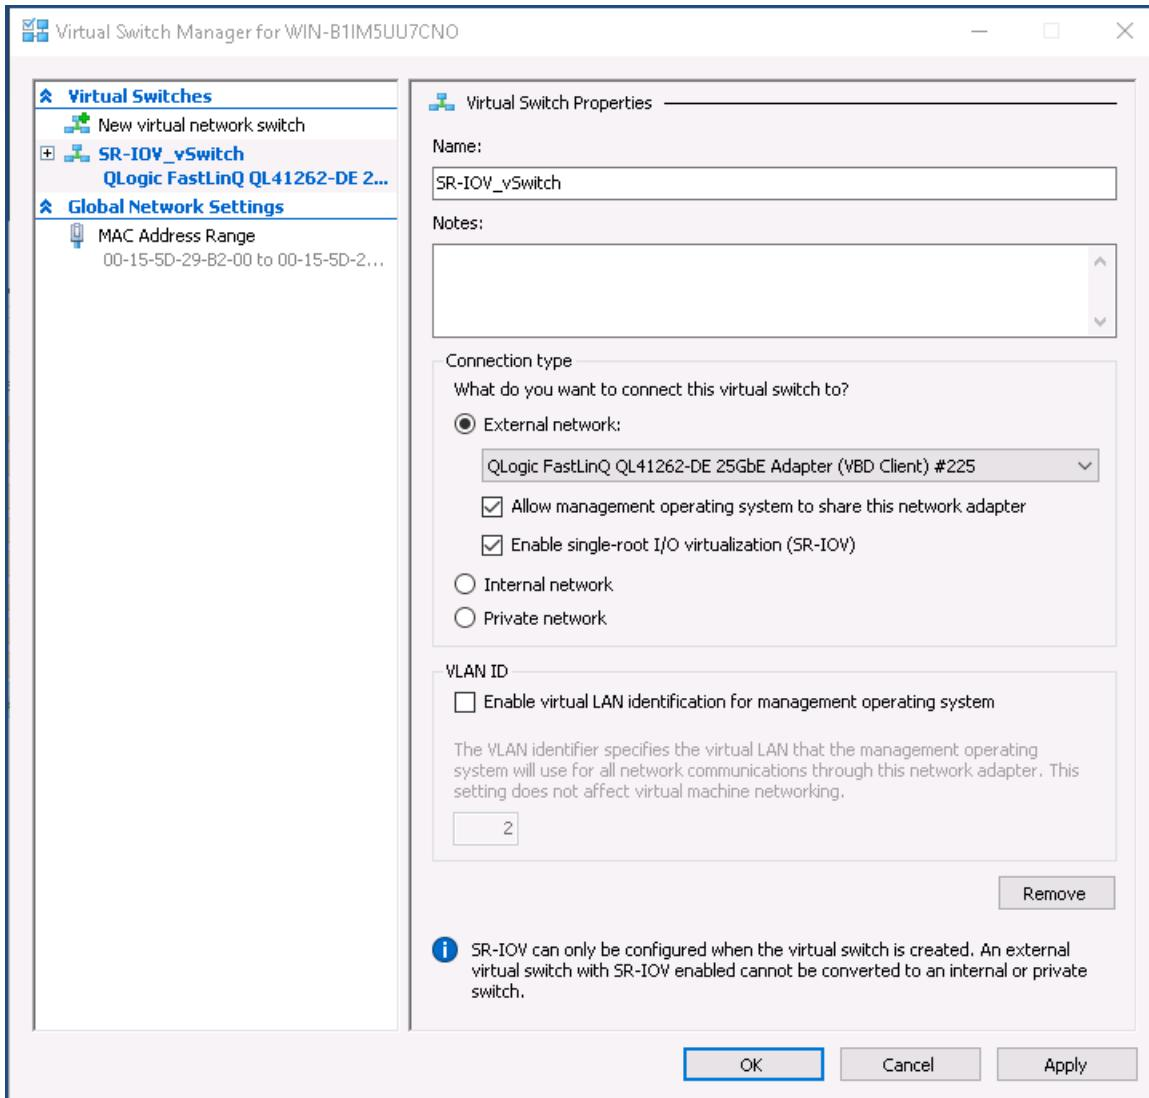

Figure 11-4. Virtual Switch Manager: Enabling SR-IOV
10. To create a Virtual Machine Switch with SR-IOV (Figure 11-4 on page 172):